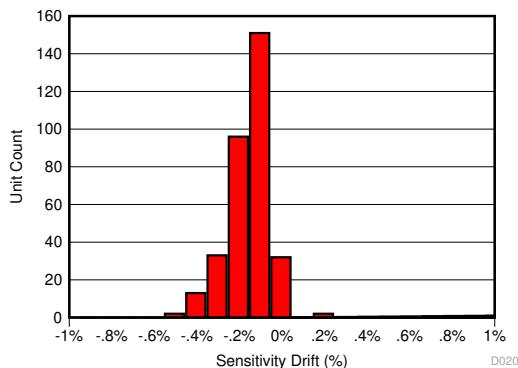
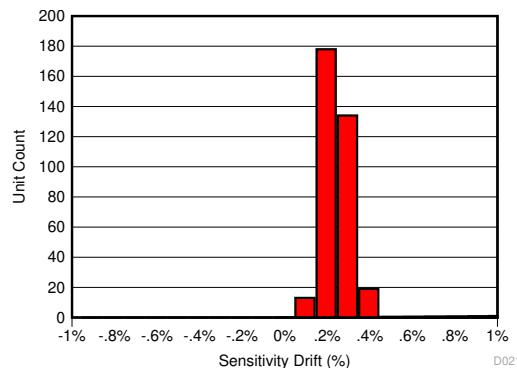

图 9-4. Sensitivity Error After 130°C, 85% RH HAST
图 9-5. Sensitivity Error Drift After AEC-Q100 High Temperature Operating Life Stress Test
The same compensation techniques used in the TMCS1100-Q1 to reduce temperature drift also greatly reduce lifetime drift due to aging, stress, and environmental conditions. Typical magnetic sensors suffer from up to 2% to 3% of sensitivity drift due to aging at high operating temperatures. The TMCS1100-Q1 has greatly improved lifetime drift, as defined in the Electrical Characteristics for total sensitivity error measured after the worst case stress test during a three lot AEC-Q100 qualification. All other stress tests prescribed by an AEC-Q100 qualification caused lower than the specified sensitivity error, and were within the bounds specified within the Electrical Characteristics table. 图 9-4 shows the total sensitivity error after the worst-case stress test, a Highly Accelerated Stress Test (HAST) at 130°C and 85% relative humidity (RH), while 图 9-5 and 图 9-6 show the sensitivity and offset error drift after a 1000 hour, 125°C high temperature operating life stress test as specified by AEC-Q100. This test mimics typical device lifetime operation, and shows the likely device performance variation due to aging is vastly improved compared to typical magnetic sensors.